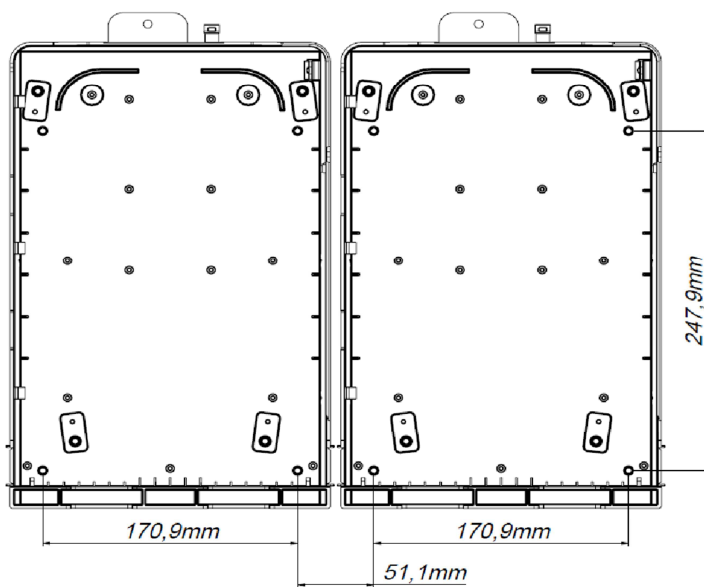

Figure 8
- 1.1.7 Install the two enclosures to the wall. Use the following distances for drilling when installing two or more enclosures (Fig. 8).